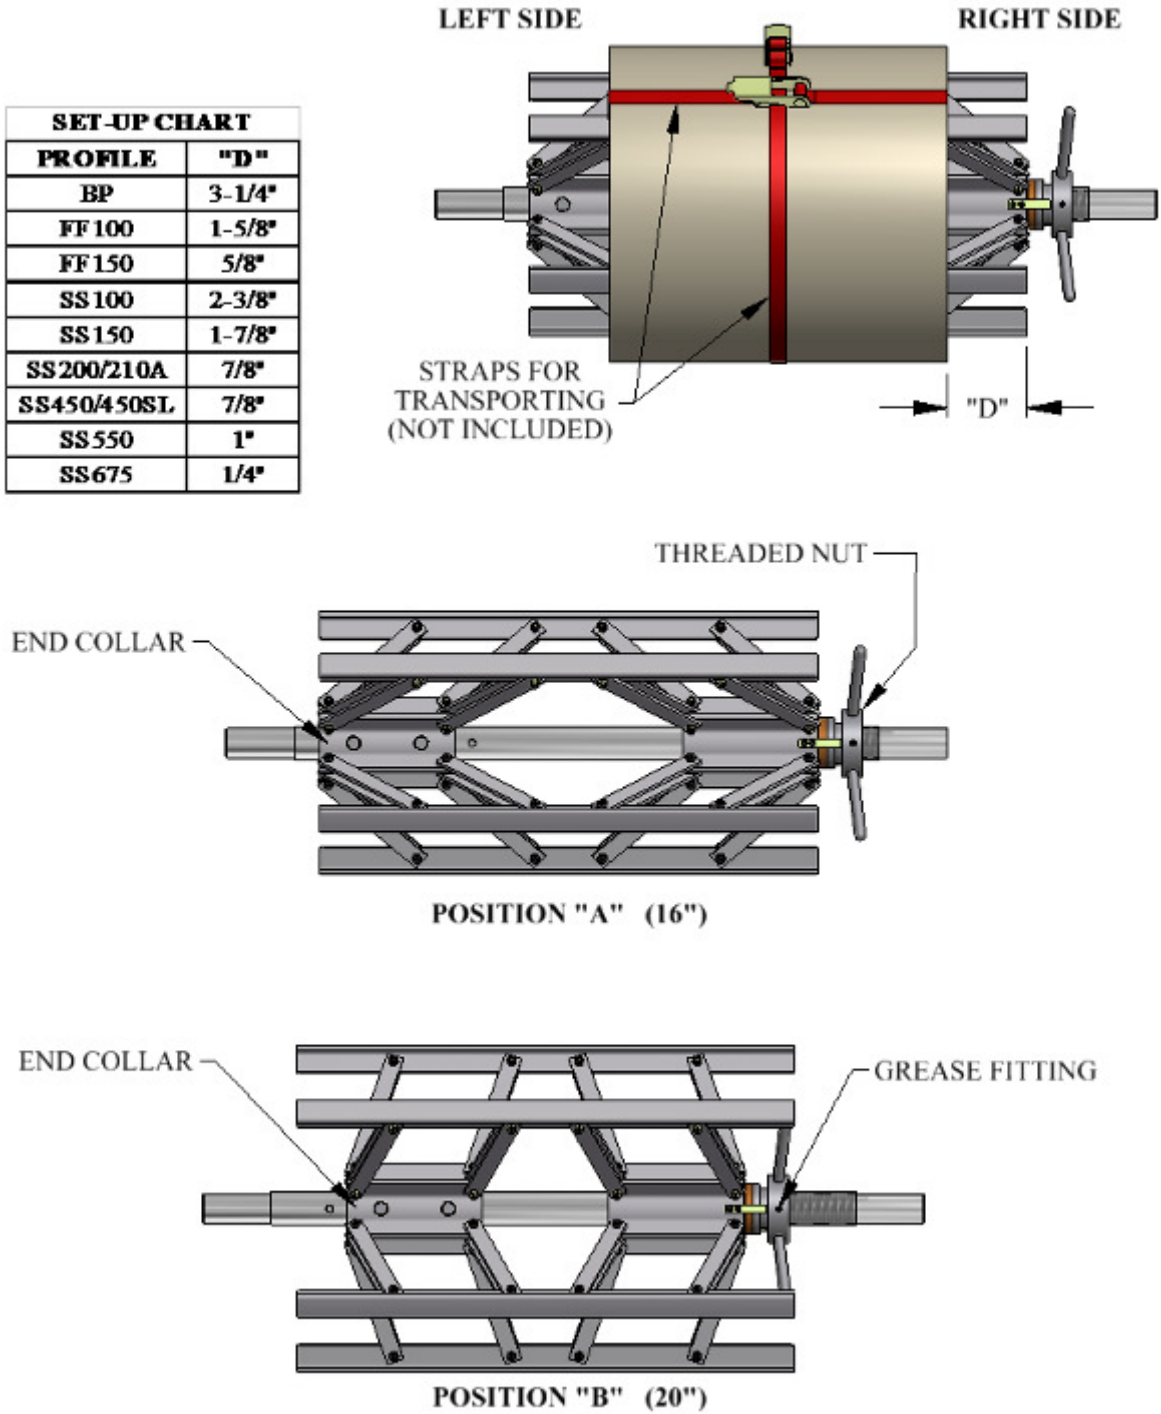

Figure 31: Expandable Arbor Setup
4. Load material onto the Expandable Arbor and align it to the correct position using the chart on (Figure 31).